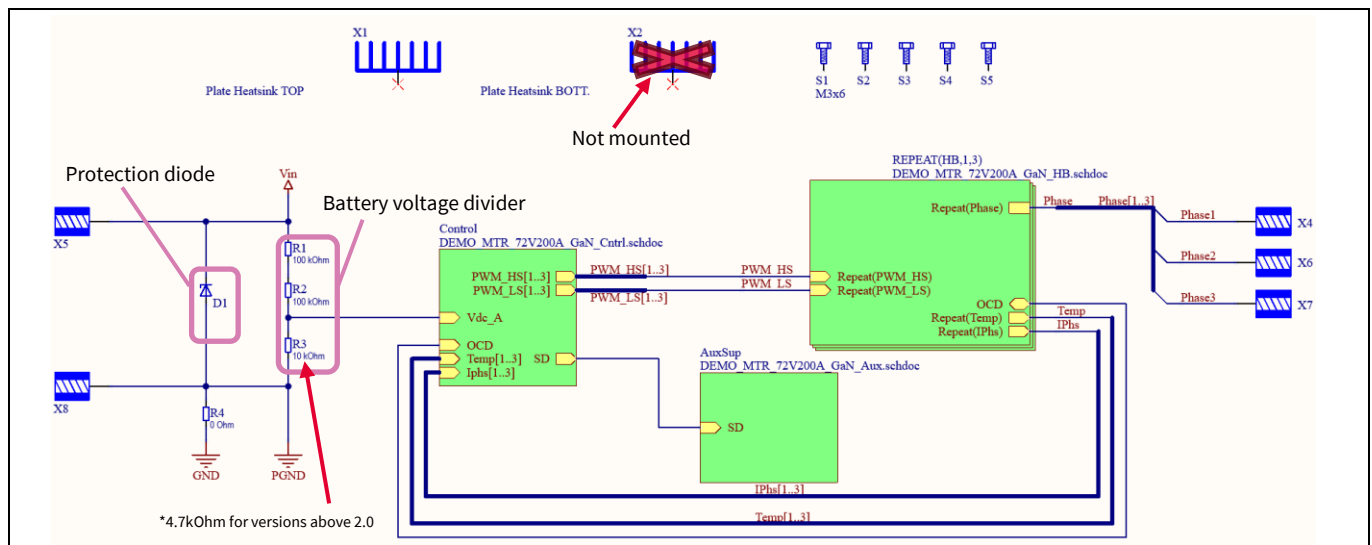

Figure 7 System-level overview of the motor drive schematic
A schematic overview of the motor drive is shown in Figure 7. The schematic can be divided into three core components:
- **Half-bridge (HB):** This block has the CoolGaN™ half-bridge with current sensing and the DC-link/HF capacitors (shown once in the schematic in Figure 7, but repeated thrice as identical phases 1, 2, and 3).